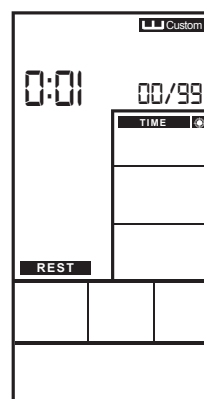

Figure 34
- 3 The TIME continues lighting up, REST will flash, press UP/DOWN to set rest time 0:01~9:59 circularly (Figure 34). Press ENTER to confirm along with buzzer beeps 1s and INTERVAL CUSTOM continues lighting up.